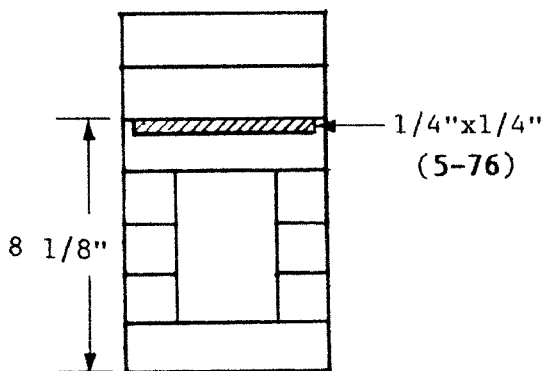

Figure 5
3. Glue the 2nd floor supports ($1/4" \times 1/4"$ pieces) to the walls with the top edge of the supports on the marks. Center the supports on the wall (there should be $3/16"$ of wall past each end of the supports). Figure 5.